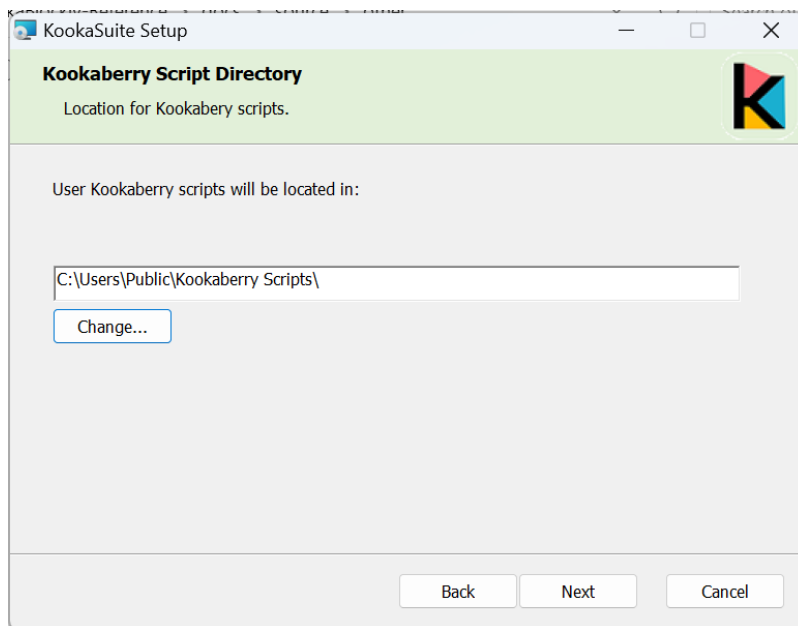

Fig. 1.7: Scripts location dialogue. Click **Next** to proceed.
5. The next dialogue, shown in Fig. 1.7, specifies the folder in which **KookaSuite** will store files.